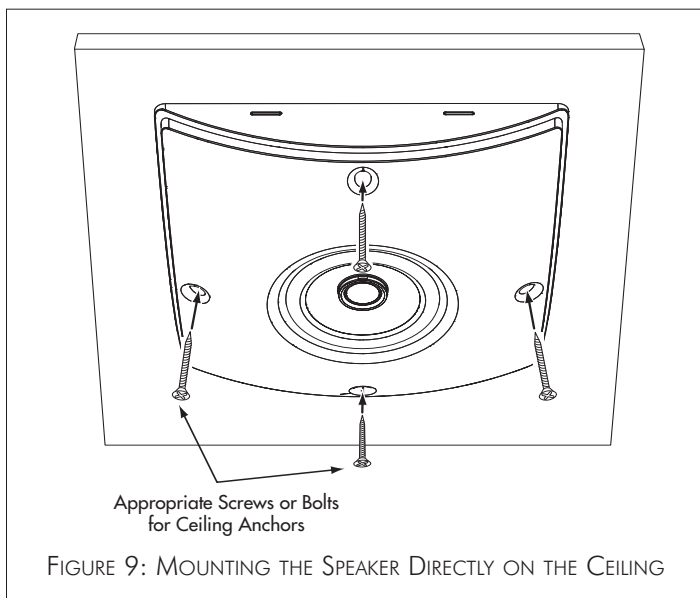

FIGURE 9: MOUNTING THE SPEAKER DIRECTLY ON THE CEILING
9. Place the speaker at the mounting location again and drive four screws or bolts appropriate for the chosen anchor devices through the four mounting holes on the speaker and into the anchors in the ceiling (see Figure 9).